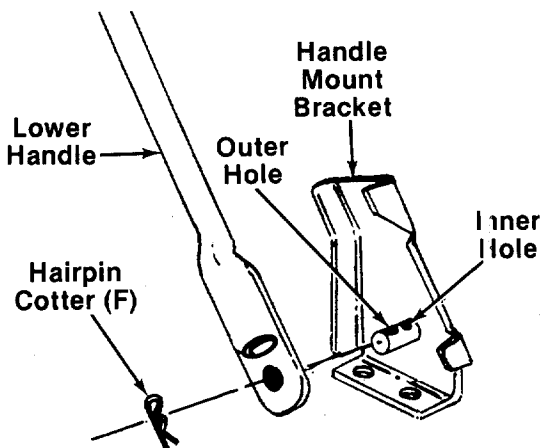

FIGURE 2.
- A (1) Rope Guide Bolt
- B (1) Curved Head Carriage Bolt
- C (2) Lock Washers 5/16" I.D.
- D (2) Hex Nuts 5/16-18 Thread
- E (2) Cable Ties
- F (2) Hairpin Cotters
- G (1) Plastic Plug
- H (1) Cable Bracket
3. Attach the lower handle by placing the bottom holes in the lower handle over the weld pins on the handle mount brackets. Make certain the instruction label on the lower handle can be read from the operating position. Secure with hairpin cotters (F) in inner holes on weld pins. See figure 2.